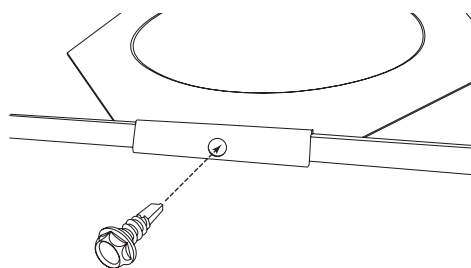

Figure 4
4. Once properly located, use power driver to install 2pcs self-tapping metal screws through holes in glides in to rails to secure. See Figure 4.